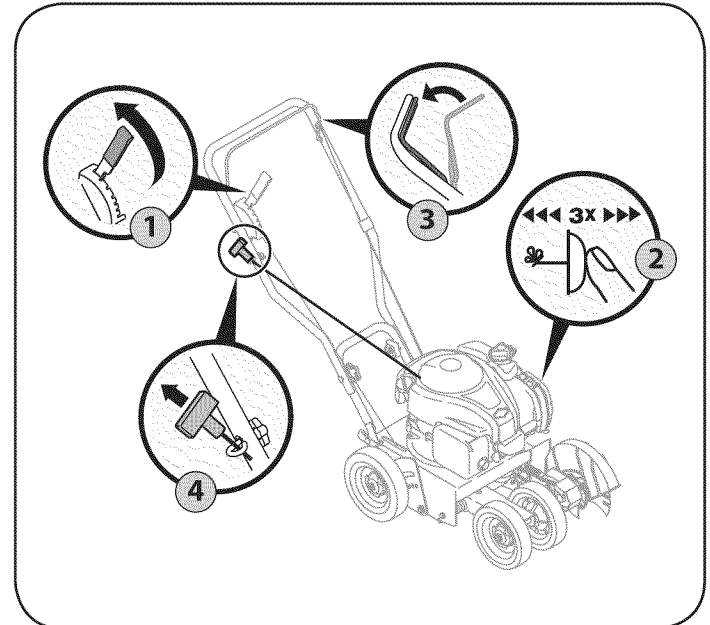

Figure 9
2. Push the primer three times. See Figure 9. Do not prime to restart a warm engine.
4. With your right hand, grasp recoil starter handle and pull rope slowly until resistance is felt, then pull with a rapid, continuous, full arm stroke. See Figure 9. Keeping a firm grip on the starter cord handle, let the rope rewind slowly. Repeat until engine cranks. Let the rope rewind each time slowly.